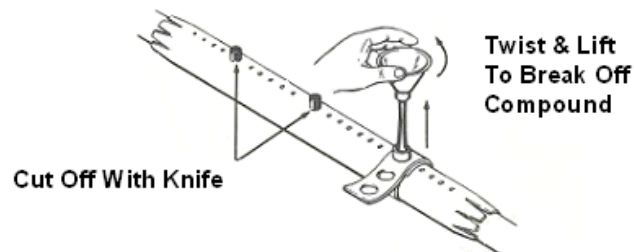

Figure 16
1. Remove funnel by twisting and lifting, breaking off from compound. (Figure 16)
2. Remove mold straps and funnel supports. (Figure 16)
3. Carefully cut off spout compound protrusions from repair, using a knife. (Figure 16)